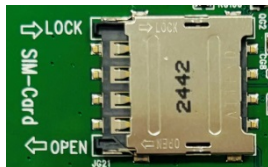

FIG. 1
Step 2. Insert SIM card (Optional): Slide the metal frame of the SIM card socket leftwards (**FIG. 1**) and flip it over (**FIG. 2**); then put a SIM card onto the socket (**FIG. 3**).